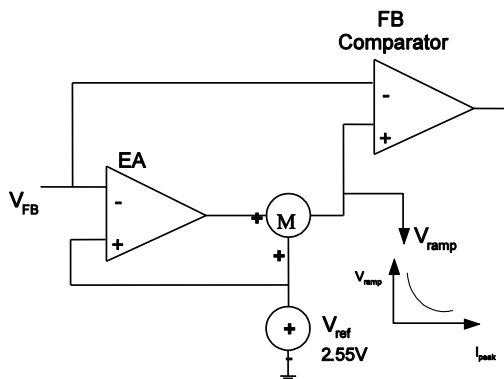

Figure 5: EA and Ramp Compensation
To achieve a better load regulation, the MP9488 employs an error amplifier (EA) compensation function (see Figure 5). After a 6 μ s delay from the MOSFET turning off, the MP9488 samples the feedback voltage. With EA compensation, the reference voltage (2.55V) can be regulated with the load. This can achieve a better regulation of the power module.
To maintain a precise output voltage, an internal ramp compensation circuit is added. An exponential voltage sinking source is added to pull down the reference voltage of the feedback comparator (see Figure 5). The ramp compensation is related to the load conditions. In full-load condition, the compensation is about 3mV/ μ s. When the load decreases, the compensation increases exponentially.